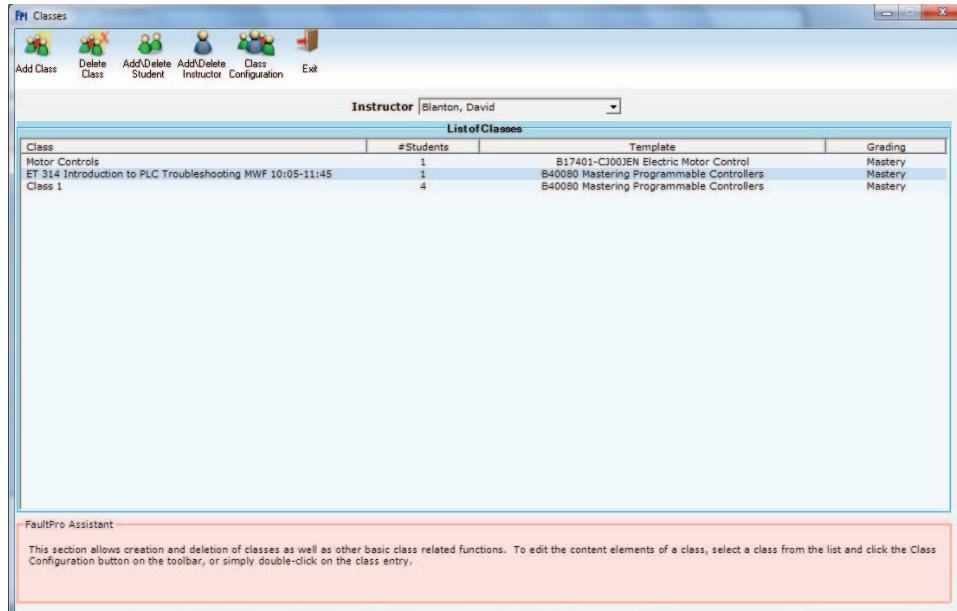

Figure 53. Template/Workstation Configuration Utility
- A. From the Instructor Options screen, click the **Classes** button. The Classes utility should appear on your screen, similar to that shown in figure 53.